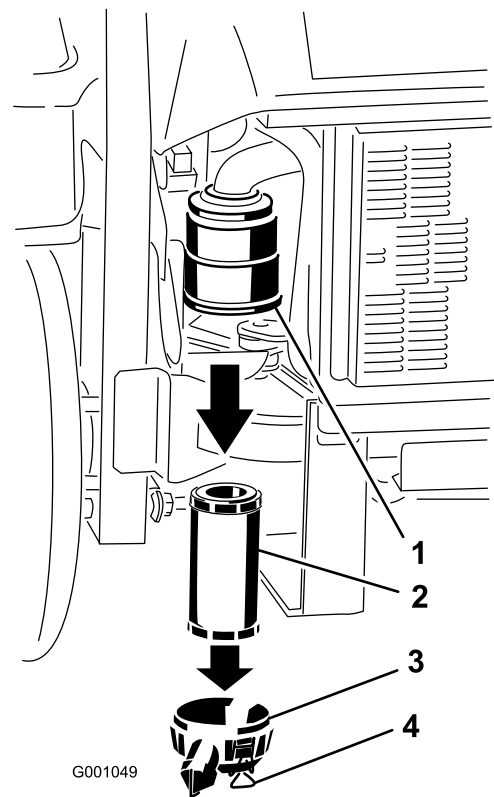

Figure 37
3. Release the latches on the air cleaner and pull the air cleaner cover off of the air cleaner body (Figure 37).
5. Gently slide the filter out of the air cleaner body (Figure 37). Avoid knocking the filter into the side of the body.